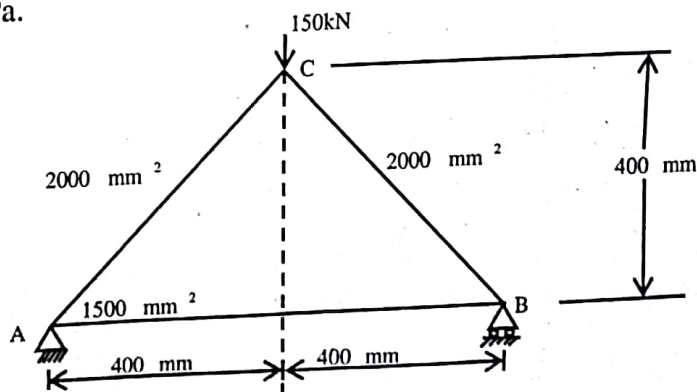

Figure 3
- (b) For a three bar truss system shown in figure 3, determine the nodal displacements and stresses in each member. Find the support reactions also. Take $E = 200\text{GPa}$. [8]